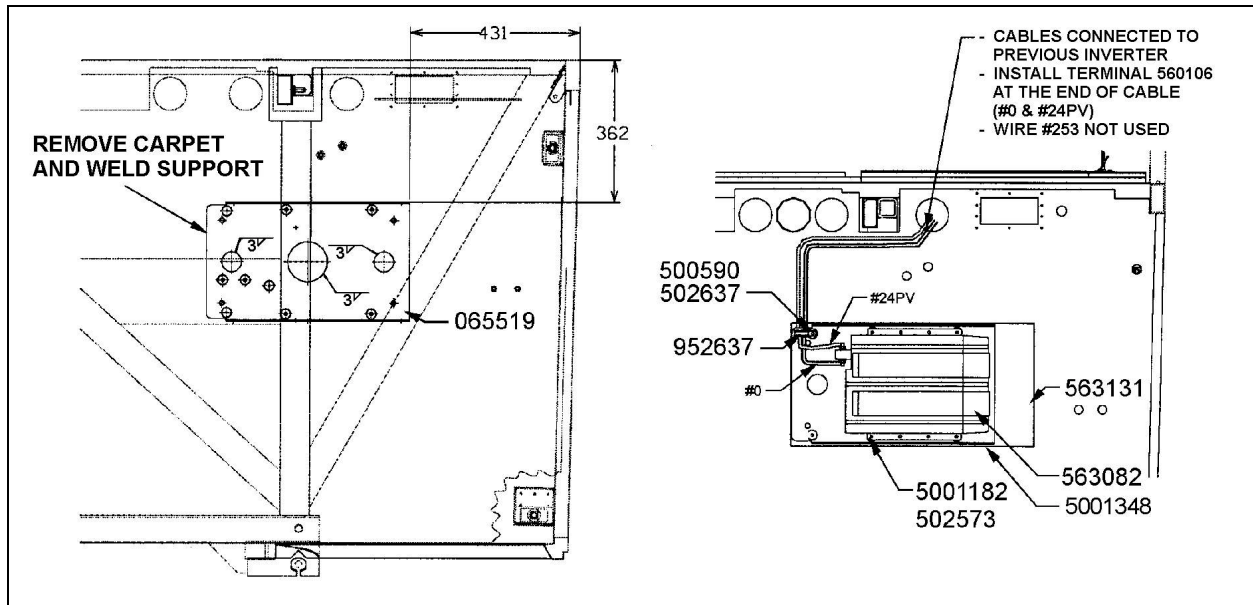

FIGURE 4
2. Remove a portion of carpet from partition wall if necessary and weld support (065519) onto baggage compartment rear partition wall as per instructions in figure 4. Refer to pages 2 and 3 for welding specifications.
4. Install a terminal (560106) at the end of cables #0 & #24PV and fix cables onto inverter as per figure 4. Cut wire #253 and secure cables using cable clip (952637), wing nut (5001348), washer (502637) and nut (500590).